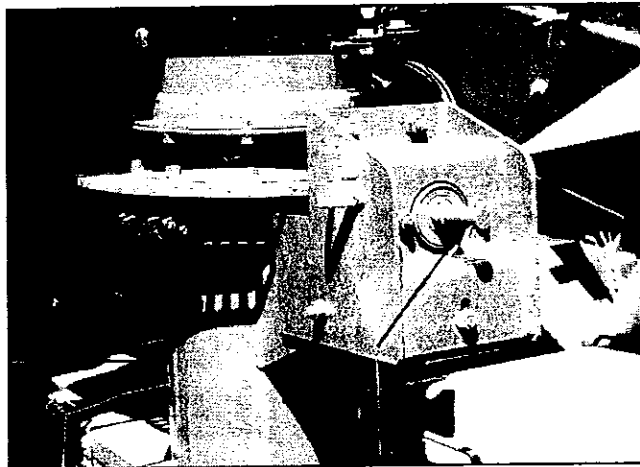

Figure 26: Manual swing.
1. **MANUAL CRANK:** (See Figure 26 and 27, page 17) Insert crank on the shaft next to channel to lift and on the shaft at the rear of lower auger housing to swing the unloading auger. A brake is provided